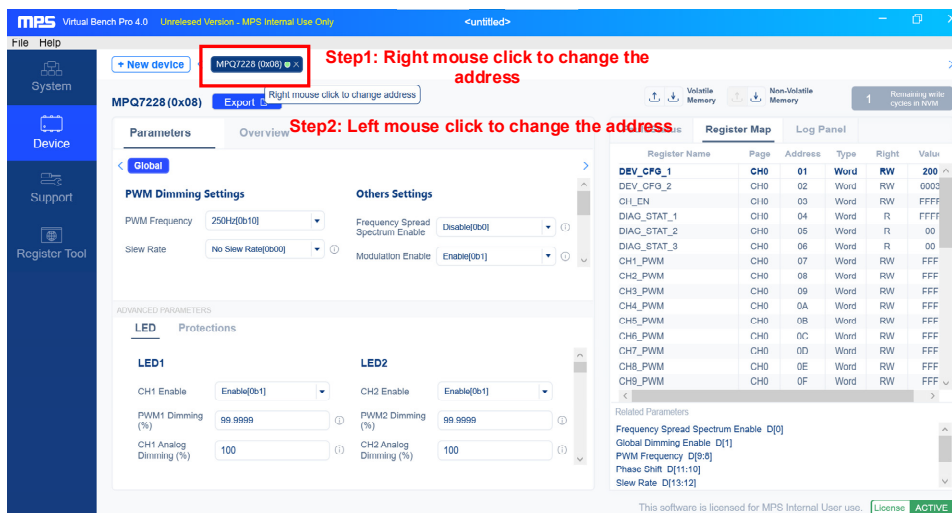

Figure 12: Change Address in Virtual Bench
- g. The evaluation board's default address is 0x08. To select the correct address, right-click on "MPQ7228 (0x00)" and change the address (see Figure 12).